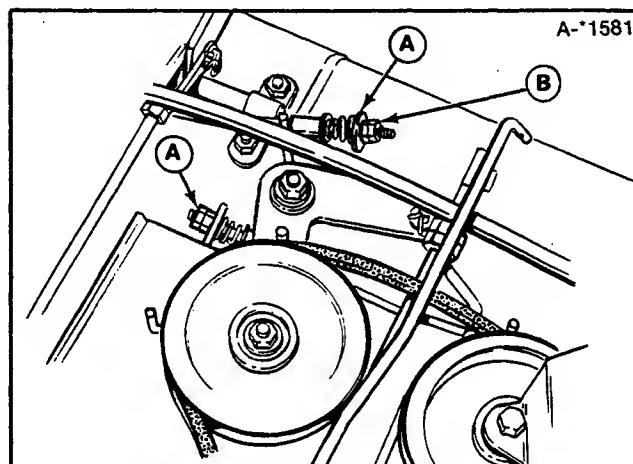

Figure 40.
5. If adjustment is required, turn adjusting nuts (A, figure 40) until proper clearance is reached. Tighten jamnuts (B).